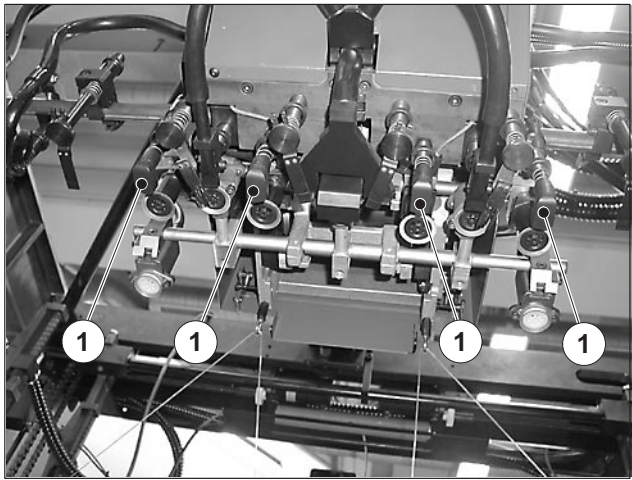

Fig. 31 Sheet separation blower
1. Adjust the blast air volume of the sheet separation blowers (Fig. 31/1) on the control knob (Fig. 29/6).